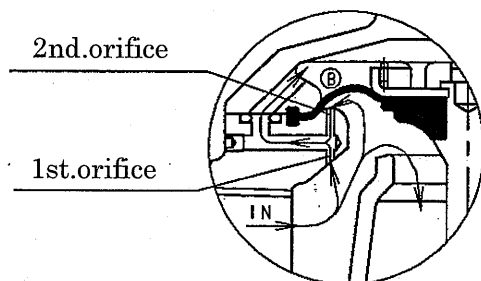
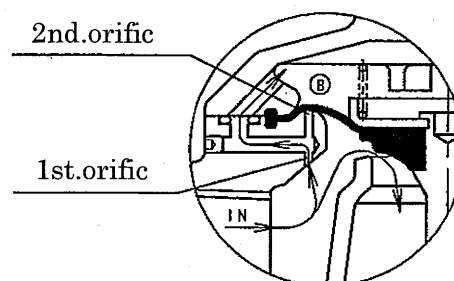

Fig. 22
Fig. 23
When the power to the coil ④ is stopped, the plunger ② separates from the core assembly ③ by the spring force, and the pilot valve seat closes, then the valve will start to close. Immediately after the closing operation starts (refer to Fig. 22), the water from the inlet will flow as shown with the arrow. At this time, the water flows through the No. 1 and No. 2 orifices into the ⑤ chamber, so the diaphragm assembly ① will quickly move toward the valve closing direction. When the valve closing degree becomes relatively small (refer to Fig. 23), the diaphragm assembly ① will plug the No. 2 orifice, and the water will